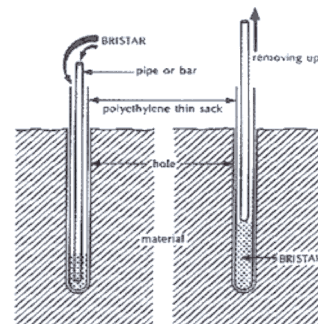

Fig. 8: Use of Polyethylene Sack in hole
- (1) When there are many joints or large voids in the object to be demolished and BRISTAR somewhat leaks from the hole or when there is water in the hole, place a polyethylene thin sack equal to or slightly larger than the hole diameter into the hole and then pour BRISTAR into the sack (Ref. Fig.8).
- (2) When the object to be demolished is in water, use the sack indicated in Fig.8. Try to use the bucket or the pump when filling into the pipe, remove it, and then tie the sack to prevent the BRISTAR from being diluted.